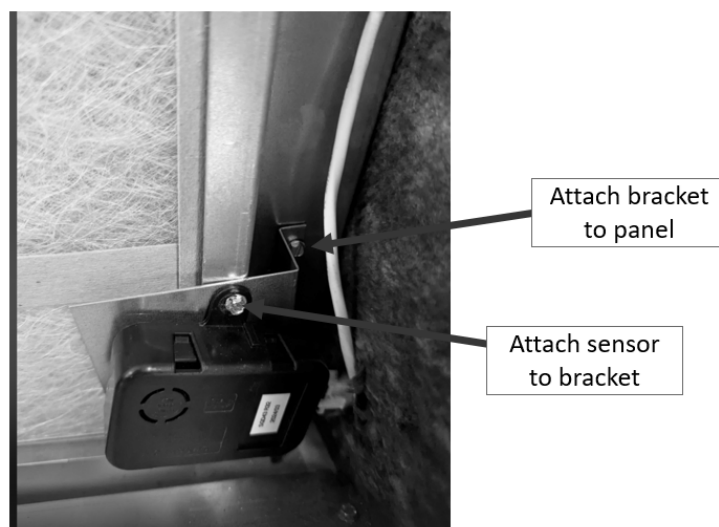

Figure 1 – Replacing Sensor to Bracket
- 3) Remove installed A2L sensor from bracket by removing two screws as shown in Figure 1. (use existing screws to install new sensor)
- 4) Attach new sensor to bracket using two existing screws. See Figure 1